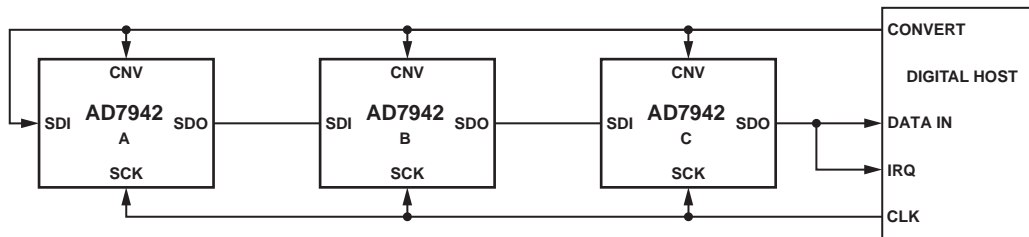
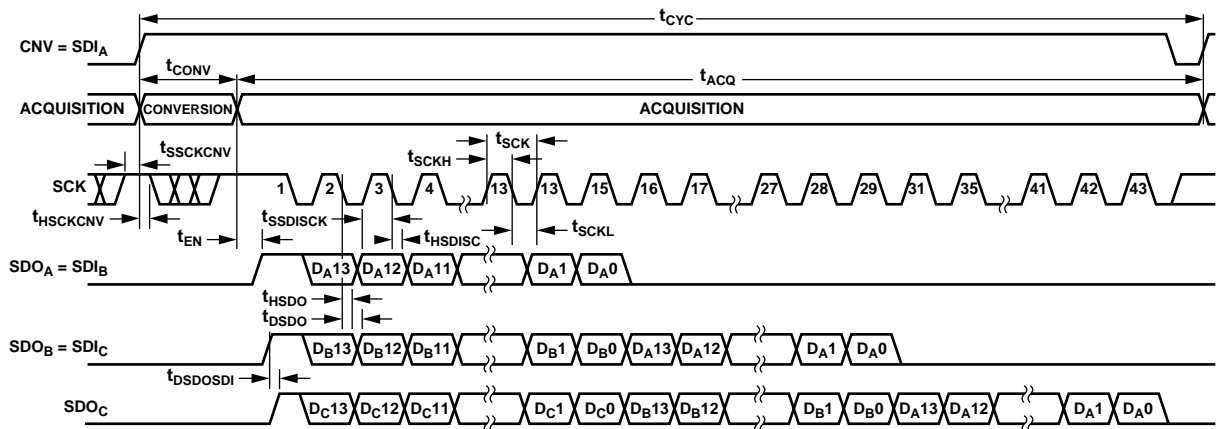

Figure 39. Chain Mode with BUSY Indicator Connection Diagram
Figure 40. Chain Mode with BUSY Indicator Serial Interface Timing
- In the chain mode, if SCK is high during the CNV rising edge (Figure 40).
A connection diagram example using three AD7942s is shown in Figure 39 and the corresponding timing is given in Figure 40.
Figure 39) SDO will be driven high. This transition on SDO can be used as a BUSY indicator to trigger the data readback controlled by the digital host. The AD7942 then enters the acquisition phase and powers down. The data bits stored in the internal shift register are then clocked out, MSB first, by subsequent SCK falling edges. For each ADC, SDI feeds the input of the internal shift register and is clocked by the SCK falling edge. Each ADC in the chain outputs its data MSB first, and $14 \times N + 1$ clocks are required to readback the N ADCs. Although the rising edge can be used to capture the data, a digital host also using the SCK falling edge will allow a faster reading rate and, consequently more AD7942s in the chain, provided the digital host has an acceptable hold time. For instance, with a 5 ns digital host set-up time and 3 V interface, up to six AD7942s running at a conversion rate of 250 kSPS can be daisy-chained to a single 3-wire port.